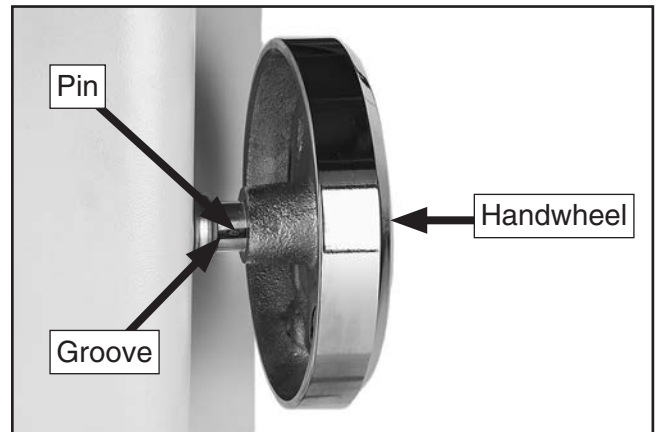

Figure 18. Handwheel installed onto shaft pin.
4. Slide groove on back of each handwheel over handwheel shaft pin, as shown in **Figure 18**.